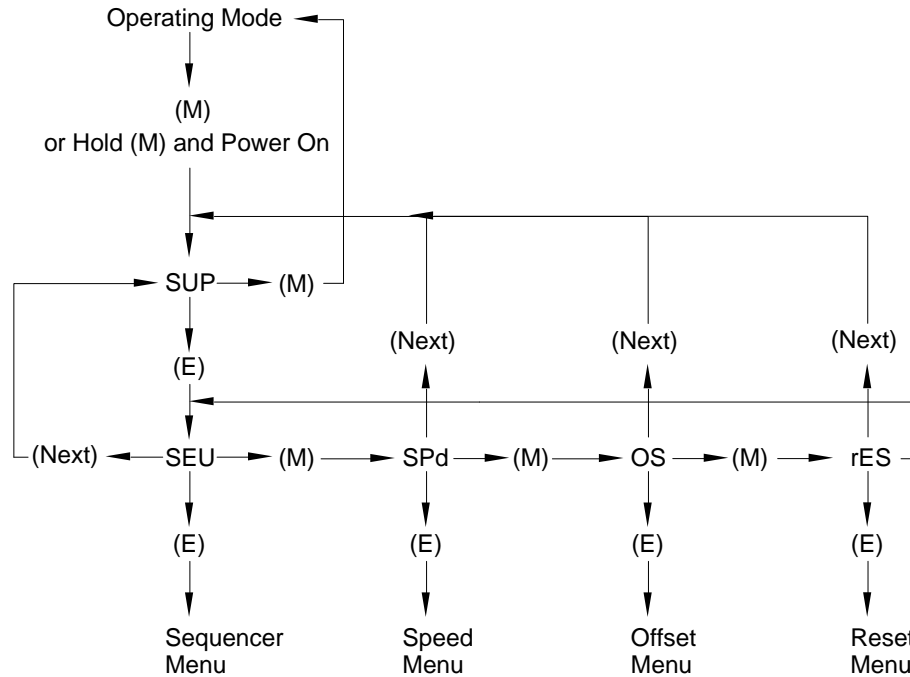

Figure 6 Top-Level Menu Navigation
To exit the menu sections press the Next/Up arrow key (4), once the display shows SUP press the Menu key to exit the menu section. Figure 6 is a diagram of the top-level menu navigation with the key presses indicated in parentheses.